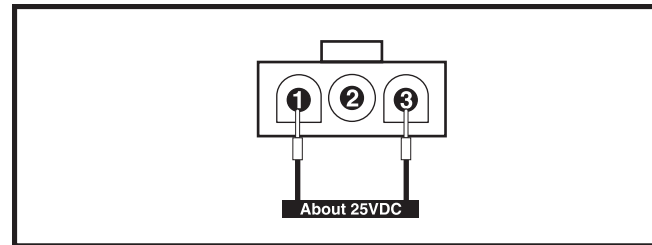

Figure 27. Connector 6a
17. With the onboard battery charger plugged into an electrical outlet, measure voltage across pin 1 and pin 3 on connector 6a. **See figure 27.**